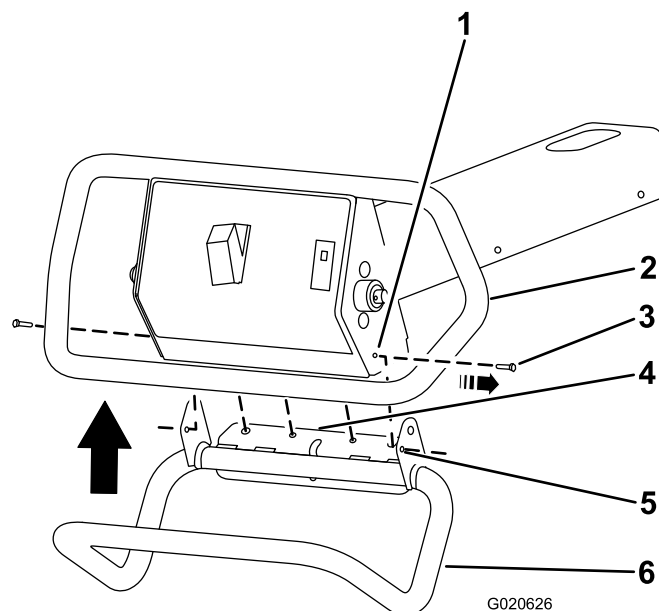

Figure 1
1. Remove the 2 hex-head bolts (#10-24 x 1/2 inch) as shown in Figure 1.
3. Push the handle up, and align the flange with the frame (Figure 1).
4. Align the mounting holes for the 2 hex-head bolts (#10-24 x 3/4 inch) of the handle with the frame holes of the frame (Figure 1).